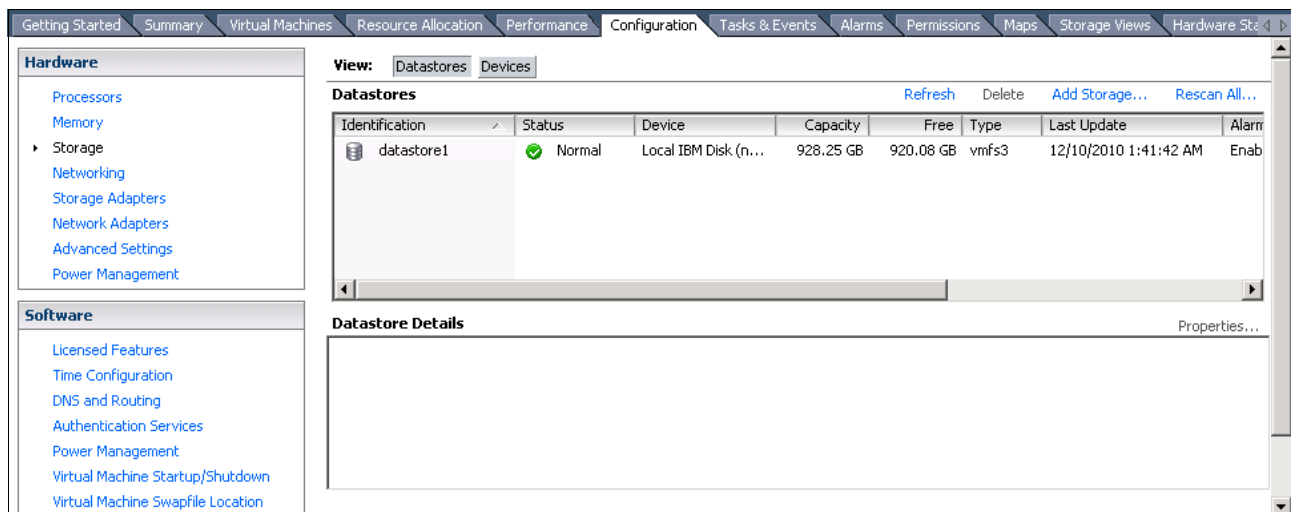

Figure 5-58 Click the Add Storage menu
6. Go to the storage view shown in Figure 5-58 and click **Add Storage**.